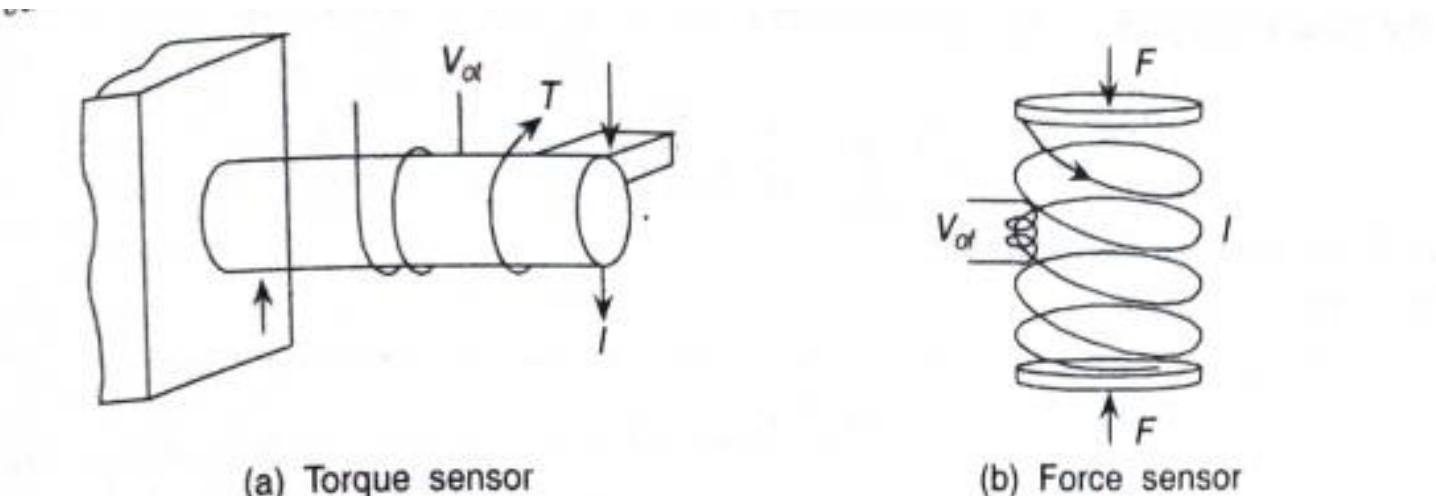

Fig. 4.4 (a) A torque/force sensor using Wiedemann effect. (b) A typical force sensor using magnetostriuctive effect.
- With a current I passing in direction as shown in fig and a torque is produced in the rod of fig 4.4 a, an output voltage V_{ot} is obtained that gives a measure of the torque.
- Fig 4.4.b, V_{of} is the output voltage for the force in the balanced condition.